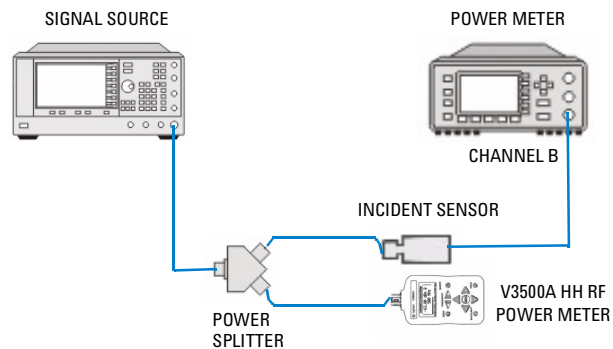

Figure 3-4 UUT connected for frequency response test
- 10 Make connections as indicated in Figure 3-4 on page 19.